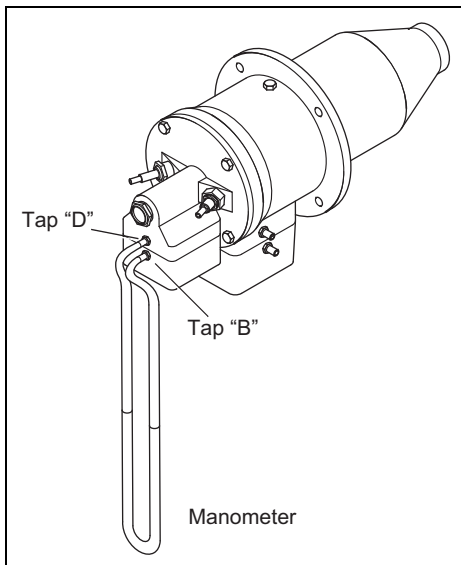

Figure 4.4. Set High Fire Gas
2. Connect the manometer to taps B and D (across the gas orifice, see Figure 4.4).